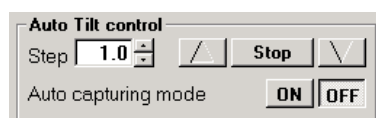
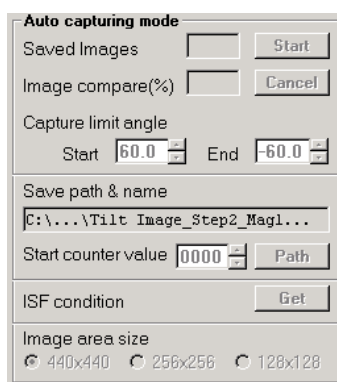

Fig. 3-214 Auto Tilt control
Fig. 3-215 Auto capturing mode
(4) Operation of the Automatic Tilt Function
The specimen stage can be tilted automatically in steps of specified degrees of tilting. In the Auto Tilt control field shown in Fig. 3-214, click the OFF button of the Auto capturing mode item. Then, the Auto capturing mode will be ineffective as shown in Fig. 3-215. Table 3-9 shows a list of the buttons for the automatic tilt function. The Tilt/Azim condition function and the Tilt speed function are the same as those described in (3).
- (a) As shown in Fig. 3-214, click the OFF button of Auto capturing mode in the Auto Tilt control field on the Tilt/Azim control window. Thus, the Auto capturing mode (automatic image capturing) can be made ineffective.
- (b) In the Auto Tilt control field shown in Fig. 3-214, specify a tilt angle step for the specimen stage.